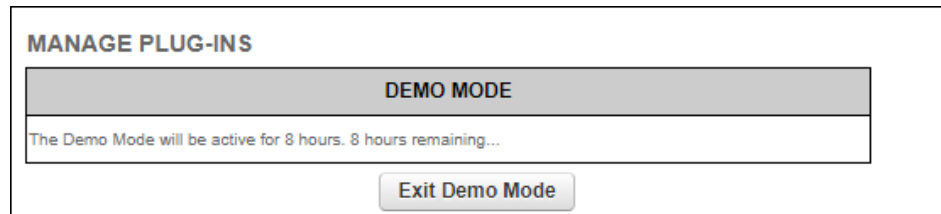

Figure 58. MANAGE PLUG-INS dialog (Demo Mode activated)
- The **Demo Mode** activation dialog will be shown (Figure 58 \(page 141\)). A countdown timer shows how much Demo time remains.